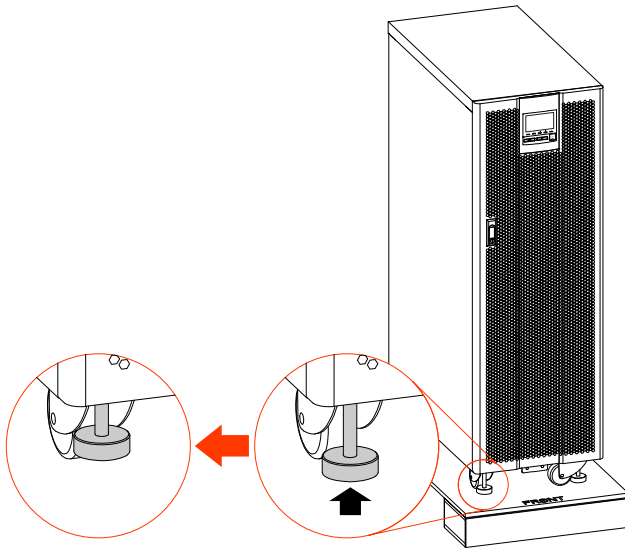

Figure3-6 Adjust supporting feet
Step 6 Loosen the brake of all the wheels or heighten the 4 supporting feet (as shown in Figure3-6).